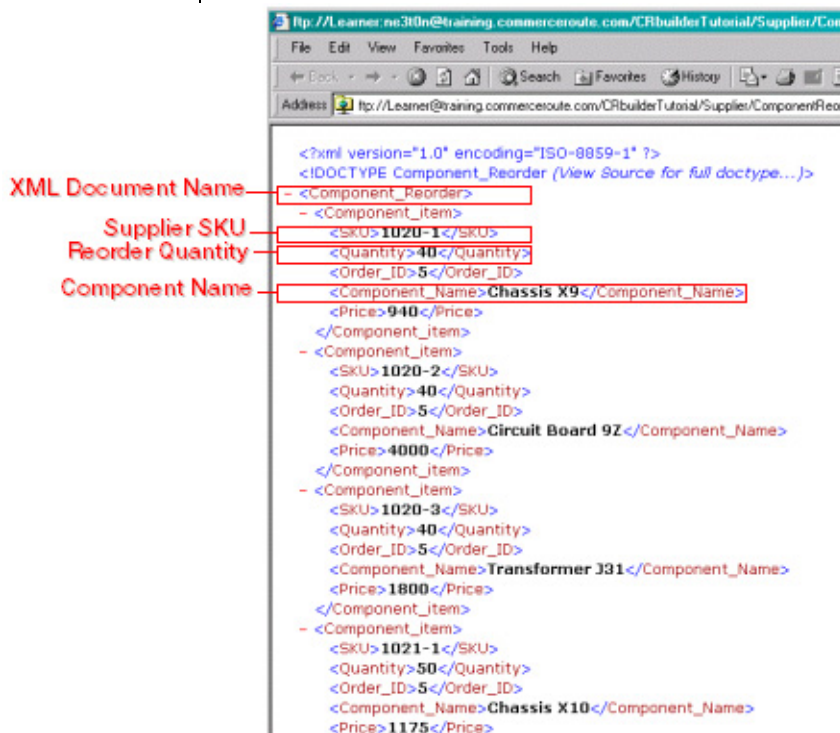

Figure 28-44. Final XML file from the Supplier's FTP site with the component reorder information, SKU, name, and quantity.
- 4 Double-click on this file to view the XML file. Note that fields containing the subcomponent name, price, and the total number ordered. Compare to Figure 28-44, below.